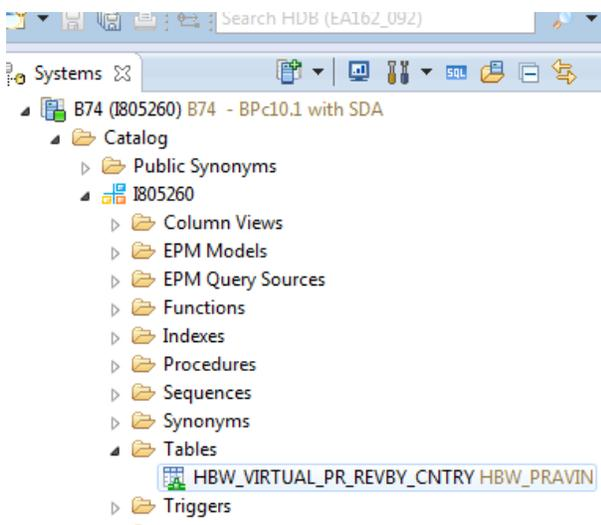

Figure 10 – Check the virtual table
1.5 **Check the virtual table:** Once you create the virtual table in the above step, you can navigate to your schema and open up tables to see the virtual table as shown in Figure 10.